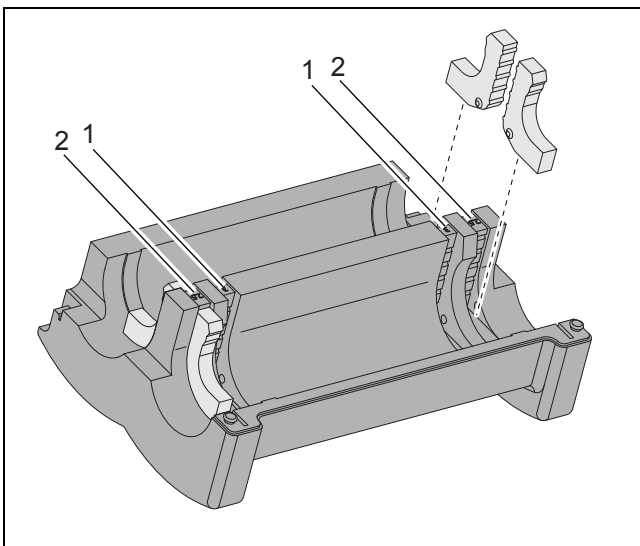

Fig. 11 Inner insulation
- install the reducing inserts in the outer recesses (→ fig. 11, [2]).
- install the reducing inserts in the inner groves (→ fig. 11, [1]).